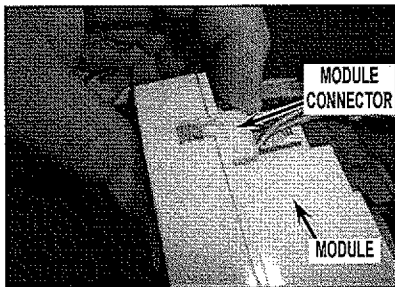

FIGURE 14
16. Connect module connector to ice maker module. See *Figure 14*.